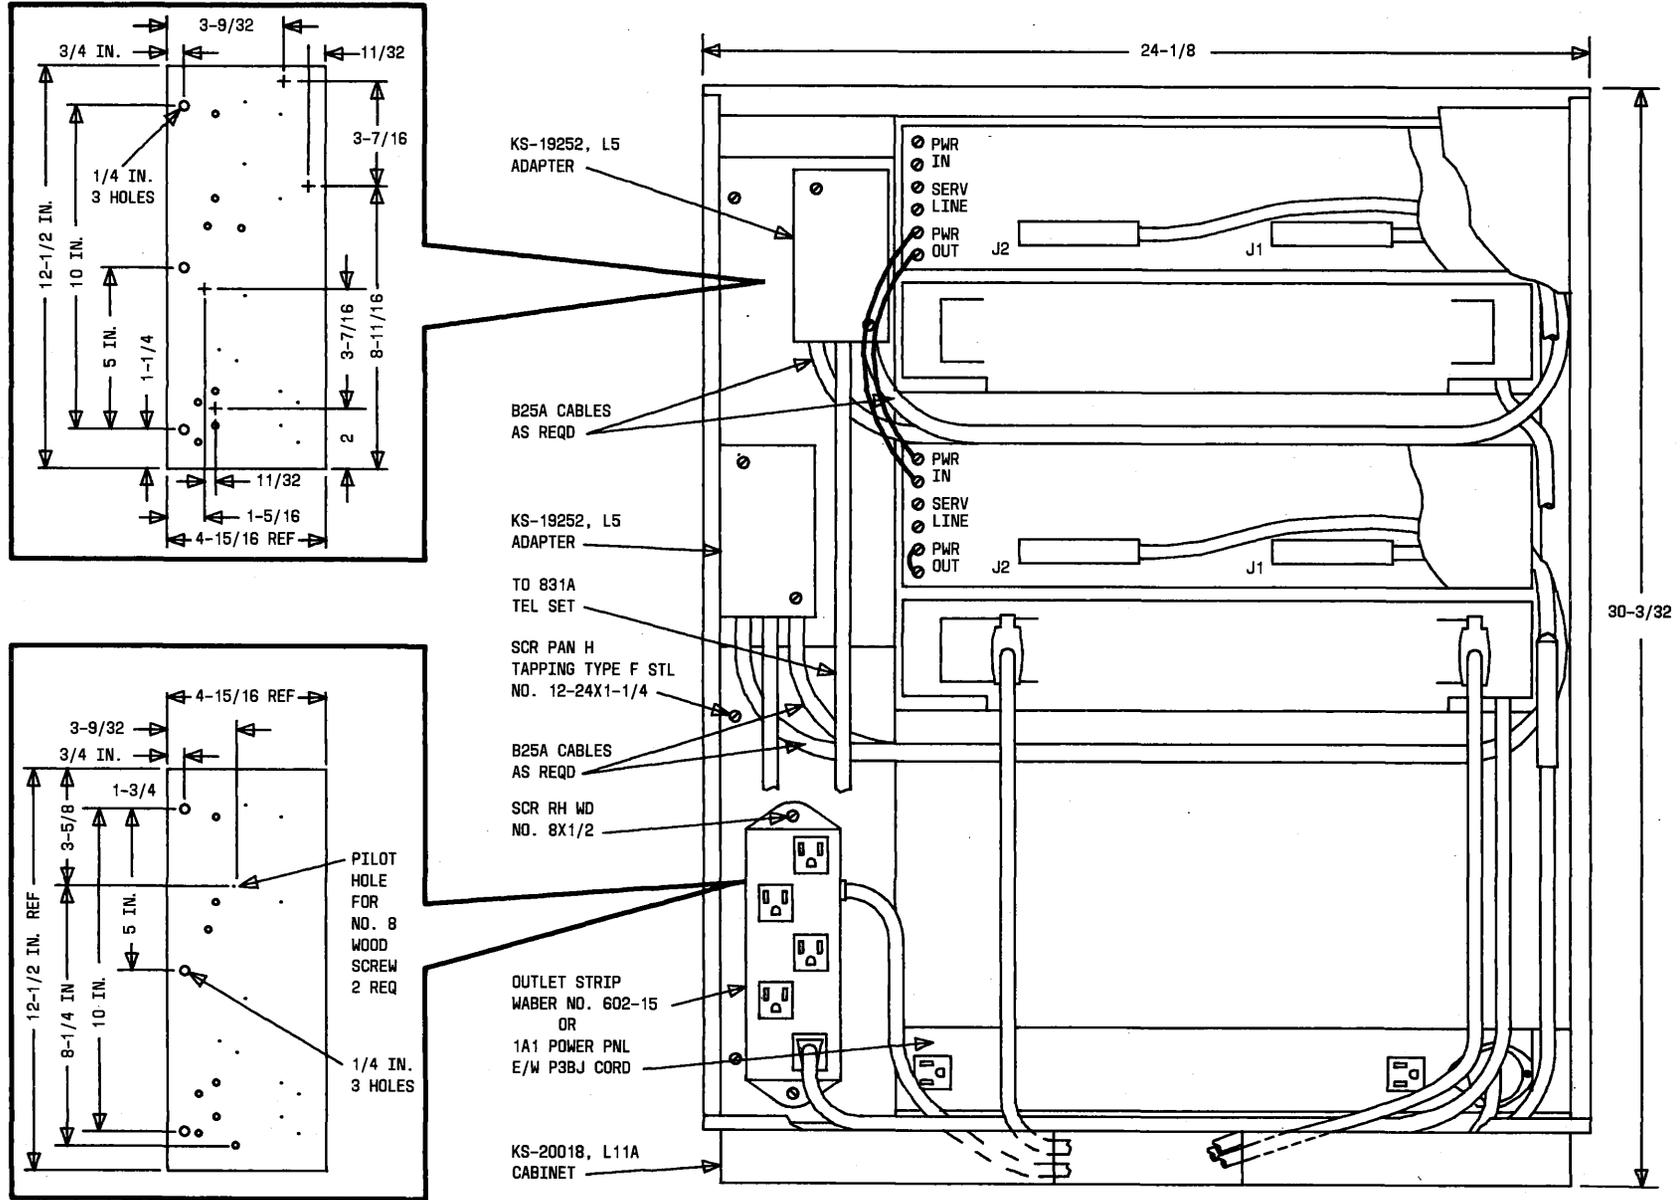

Fig. 7—Rear View of Data Station Equipped With 40A1 or 40A2 Data Mountings
**3.04 79 Backboard:** These backboards are used (in the 40A1 and 40A2 only) to mount the KS-19252 adapters and the power outlet strip (Fig. 7).